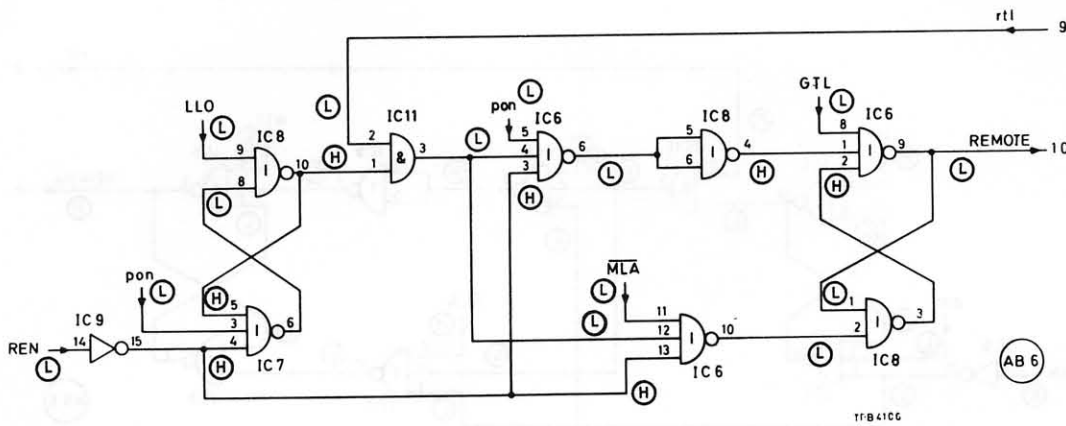

Fig. 3 'Remote fault' logic levels (>1 s after switch-on)
- (1) Place AB6 on extender board and switch on. Check AB6,10 is low. If not, go to 'Power-on reset fault'.
- (2) Localize fault by comparing logic levels with those shown in Fig. 3.